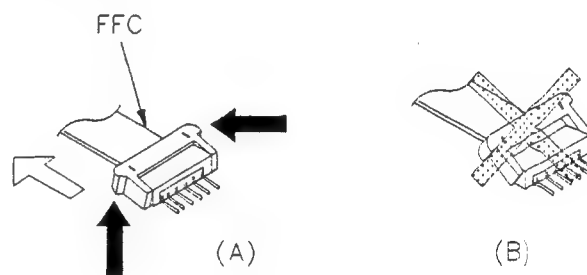

Fig. 4-15-2
3. When disconnecting the FFC6P and the FFC10P, refer to the disconnecting method shown in Fig. 4-15-2.
Hold the protruded parts (shown by the black arrows) of the connector and pull the connector in the direction shown by the white arrow to release the lock. Then, pull the FCC (flat cable) and the cable will be removed. Don't pull the connector as shown in Fig. 4-15-2 (B). If pulled strongly in the direction to be opened, the cable will be damaged. When connecting, insert the cable with the metal terminal side facing down and then use previous steps in reverse order.